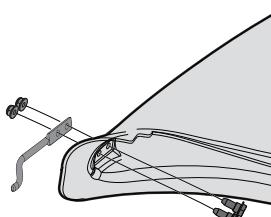

Figure 14
1. From the inside of the boot, put the two hex head screws (738-1225) from hardware pack 689-02199 through the holes at the bottom front of the boot. See Figure 14.
2. Put the mounting rod (747-06309) from hardware pack 689-02199 in place over the hex head screws. Make sure the top of the rod is facing out from the boot. See Figure 14.
3. Begin threading the flange lock nuts (712-04064) from hardware pack 689-02199 onto the hex head screws. See Figure 14.